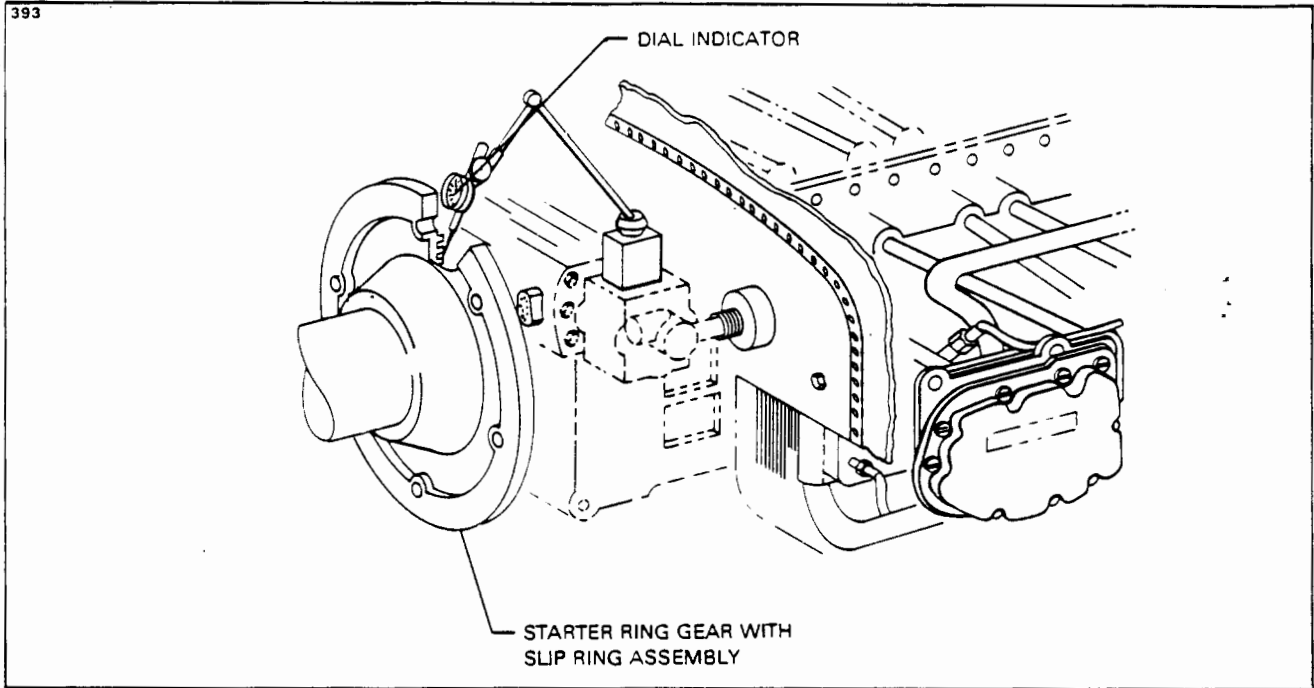

Figure 30-4. Suggested Use of Dial Indicator
- B. If uneven wear is found or if wobble is noticed, set up a dial indicator as shown in Figure 30-4 and check alignment of the slip rings to the propeller shaft as explained in this section.
Excessive slip ring run-out will result in severe arcing between the slip ring and brushes and will cause rapid brush wear. If the run-out is not corrected, rapid deterioration of the slip ring and brush contact surfaces will result and lead to eventual failure of the Deicing System. Check the slip ring run-out with a dial indicator securely attached to the engine with the pointer resting on the slip ring. (Refer to Figure 30-4.) Rotate the propeller slowly noting the run-out indicated on the gauge. The total run-out must not exceed 0.005 inch + - 0.0025 inch and 0.002 inch in any 4 inch interval of slip ring travel.